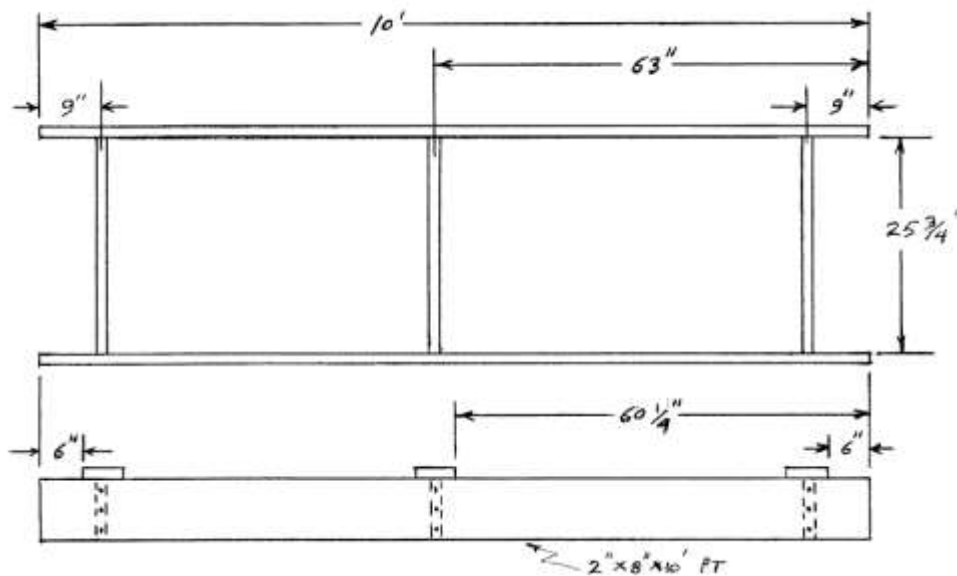

Figure 8 - Stringer Frame
**Frame Stringers** – Frame stringers are used to obtain more deck height where considerable water depth can be expected. Another reason is to minimize the number of costly pipe and dock fittings by increasing the stringer span length. Figure 8 depicts the construction of a frame stringer using 2” lumber. This design can be assembled off site with three deck planks attached for strength in transport.